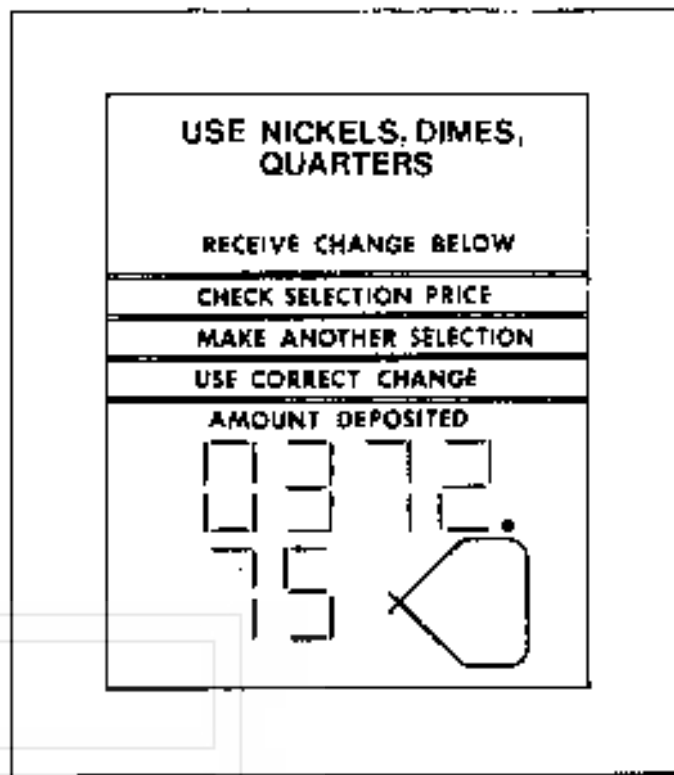

Figure 18. SHOWING \$372.75
- H. Press button 14 on the selection panel and the total dollars vendcd by the machine will be displayed (Figure 18).